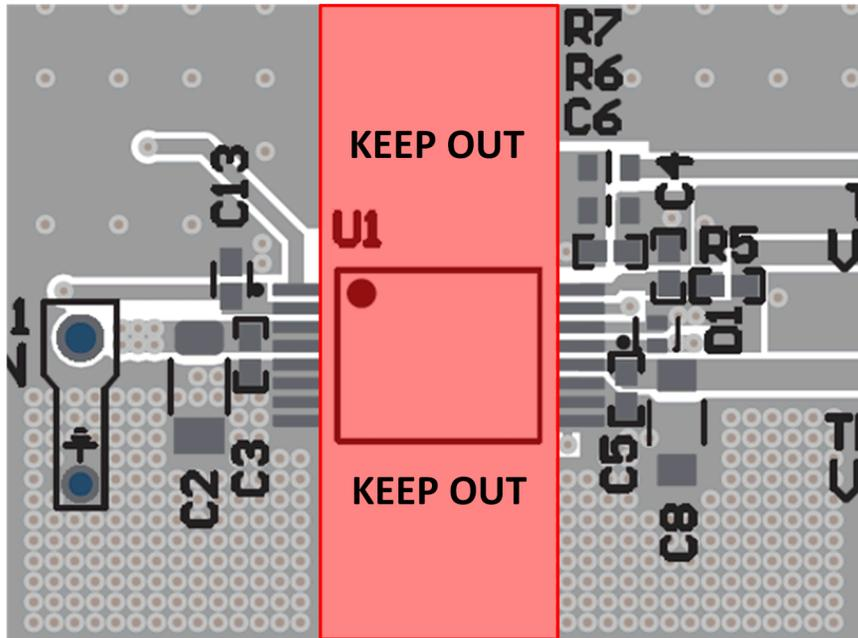

Figure 8-9. Isolation Keep Out Region
8. Creepage clearance: To maintain the full creepage, clearance and voltage isolation ratings specified in the data sheet, avoid routing signal traces or placing components directly under the UCC35131-Q1. Maintain the clearance width highlighted in red, throughout the entire defined isolation barrier. Keep-out clearance for basic isolation can be 50% less than the reinforced isolation requirement (8.2mm). Using 8.2mm provides additional margin. A layout example is shown in Figure 8-9.